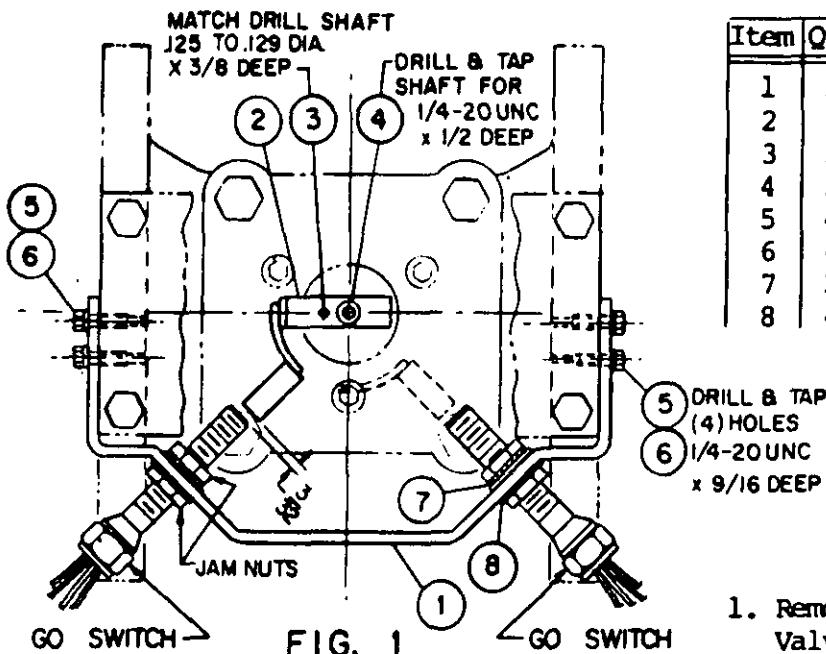

FIG. 1
4. Place Switch Activator (item 2) on shaft and secure with flat head screw (item 4). Then orient Switch Activator as shown in figure 1. Match drill shaft with hole in Switch Activator and drive rollpin (item 3) into hole to prevent rotation.
5. Fit Mounting Bracket (item 1) to sides of Actuator mounting plate support and mark location of four mounting holes, drill and tap four 1/4-20UNC x 9/16 dp. Then secure Mounting bracket (item 1) with items 5 & 6.
6. Insert GO Switches into slots on Mtg. Bracket (item 1) and secure with two jam nuts that come with switches and washers items 7 & 8.
7. Adjust Switches to sense Activator (item 2) in full open and full closed positions.